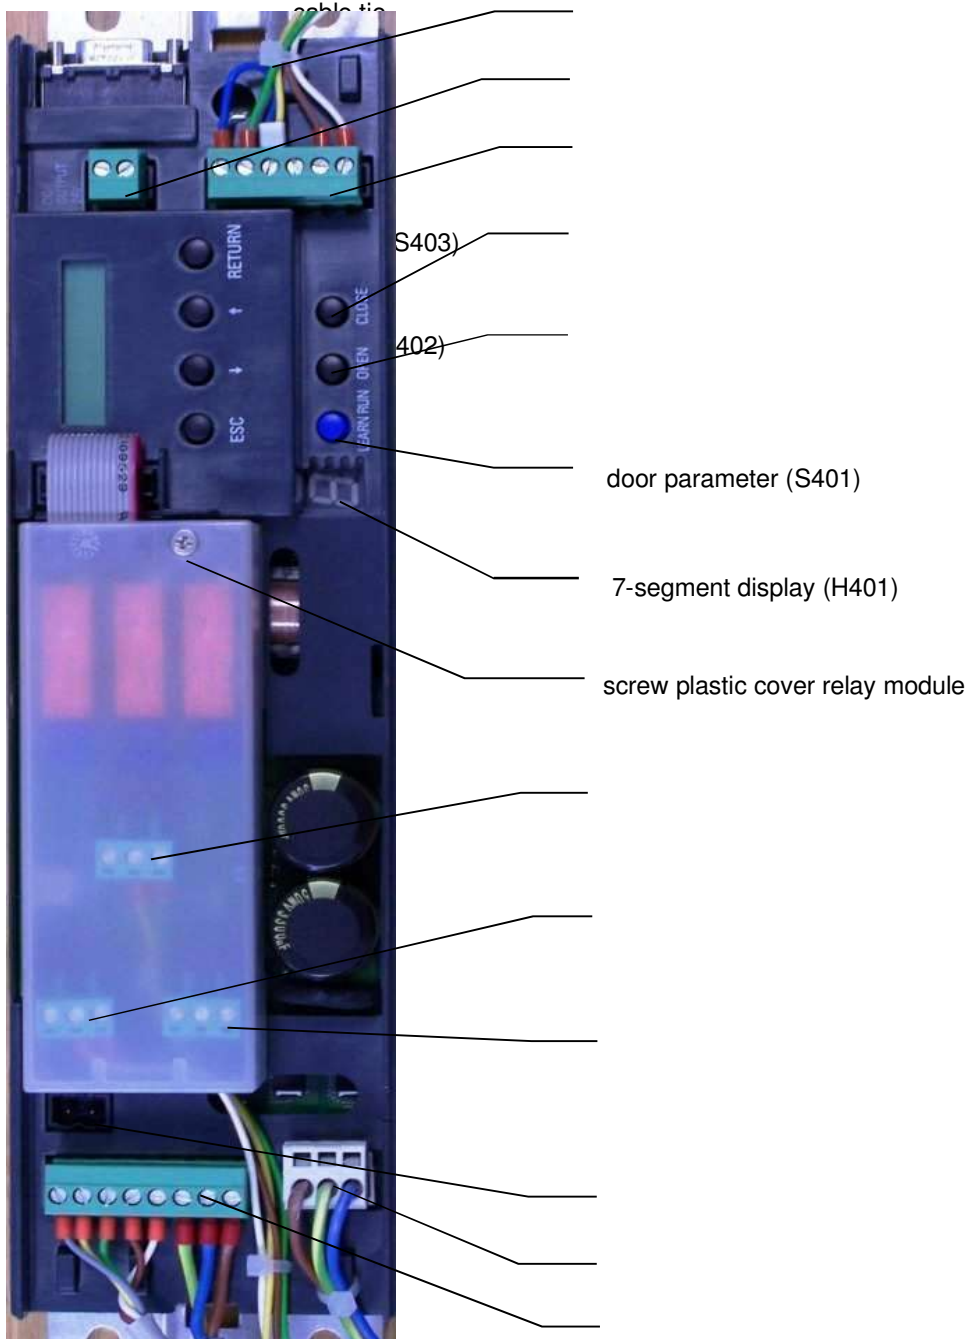

Figure 23: Control unit ATD400T
- 3) Remove the plastic cover from the relay module, loosen all cable ties and pull out all connectors from the control unit (Figure 23)
- 6) Unplug the connectors X4, X6, X11 and X12 on the control unit ATD400T (Figure 23).